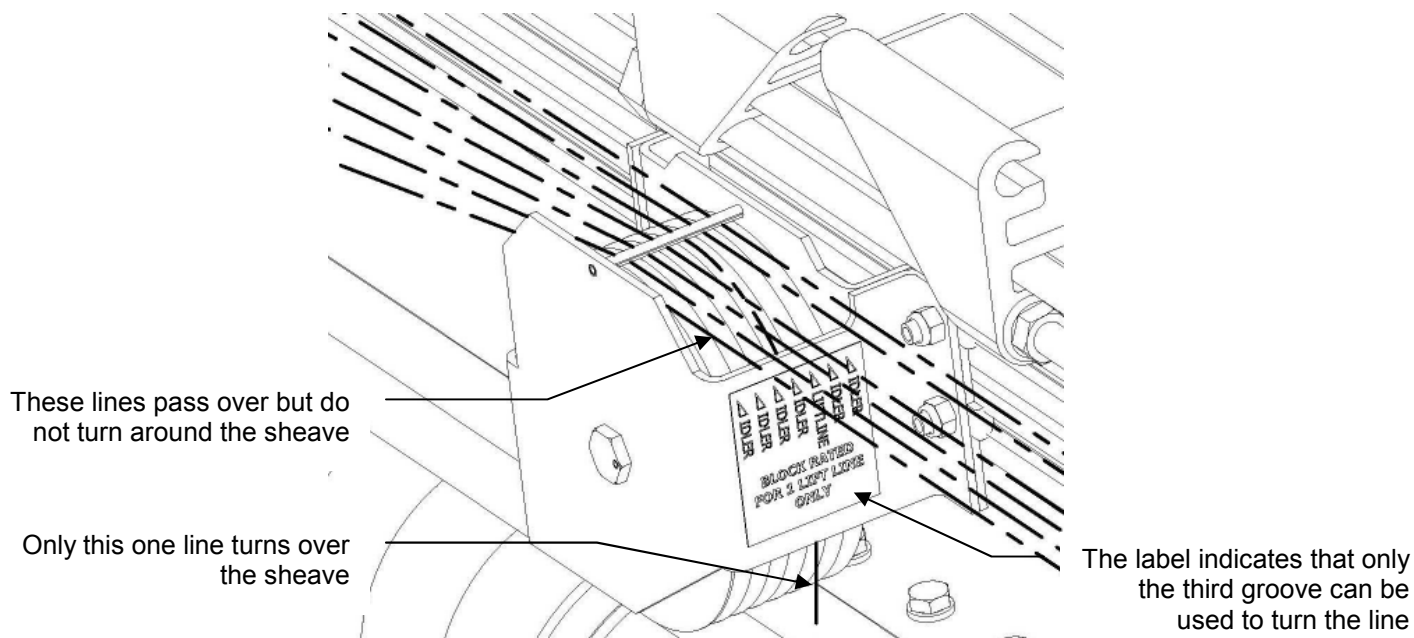

Figure 6: Detail of the seven line beam mounted loft block
- Only one lift line can wrap around the multi-line beam mounted loft block sheave by 90 degrees and drop as a lift line. That lift line must be in the indicated groove. No other cables may wrap the block at any time. See Figure 6.